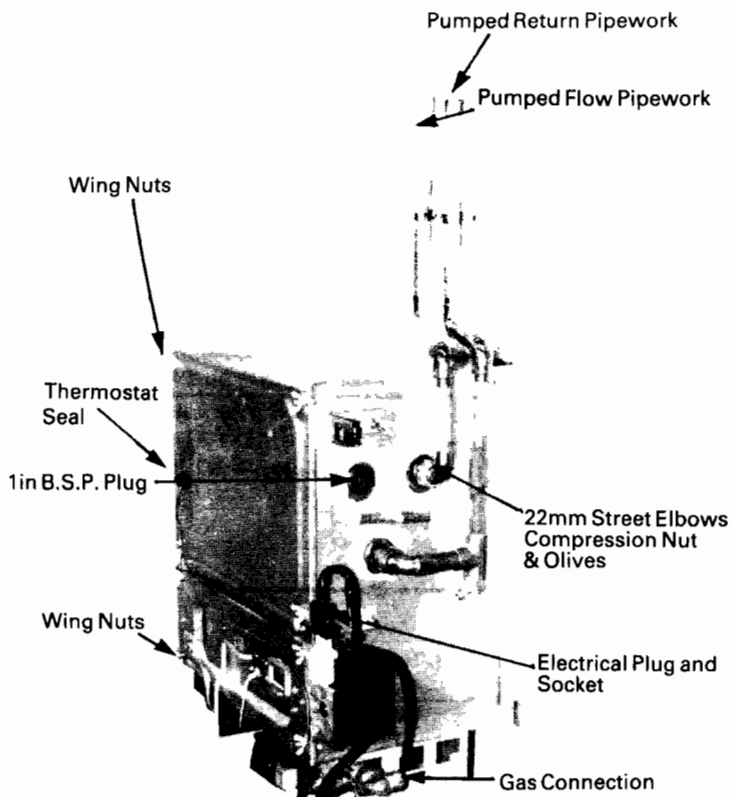

Fig. 8.
- (b) The adaptors can be fitted in the appropriate connection tappings – see Figs. 8 & 9 before **lifting the boiler into position on the wall.**
The pipes should be connected in the following order: (see Fig. 8 for example).
Gas Connections (Fig. 8)